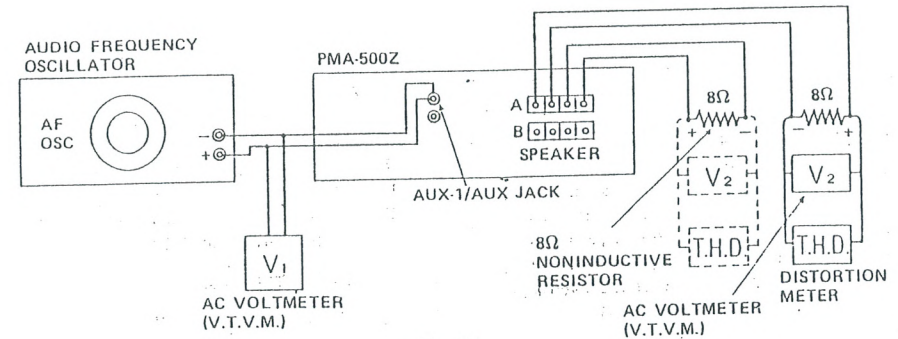

Fig. 21
- A. Connect one 8 ohms noninductive resistor to the left and one to the right channel of the SPEAKER terminals, using a separate ground lead. Connection of other instrument refer Fig. 21.